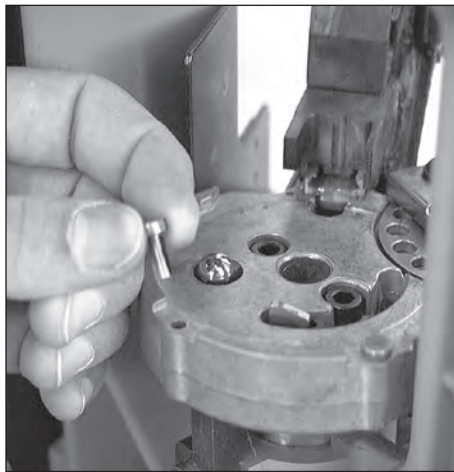

FIG 161
4. Remove the locator buttons **FIG 161**.